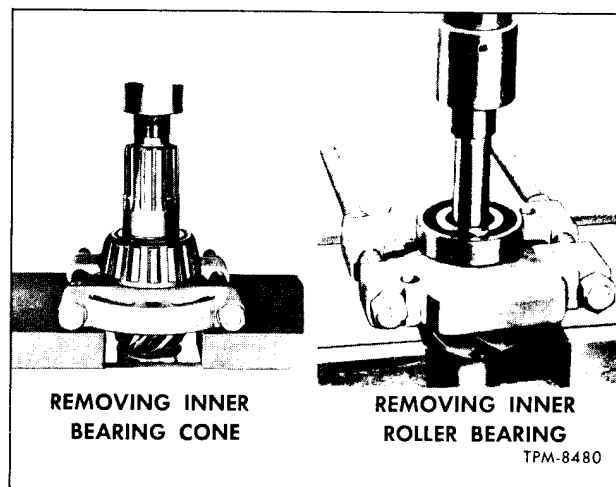
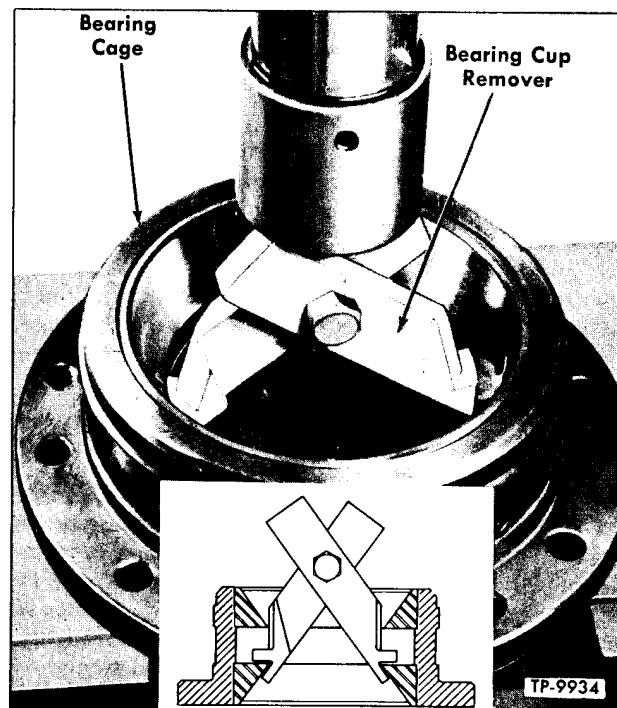

Figure 6—Pinion Bearing Removal
Figure 7—Pinion Cage Bearing Cap Removal
inner bearing (37) on drive pinion (36); then remove inner bearing from drive pinion using universal puller (J-8176) and arbor press in manner illustrated in figure 6.
5. Clamp pinion in vise equipped with soft jaw plates. Remove cotter pin, nut (25), and washer (26) from drive pinion (36).
6. Using suitable puller, remove propeller shaft companion flange (27) from drive pinion (36).
7. Remove cap screws and lock washers from pinion oil seal retainer (23), then remove retainer and gasket. Remove parking brake camshaft from brake spider.
8. Place cage and drive pinion assembly in an arbor press and press drive pinion (36) out of flange (27) and pinion cage. Outer bearing (30) will remain in pinion cage.
9. Remove bearing adjusting spacer (33) from drive pinion (36) and tag for reassembly reference.
10. If necessary, inner bearing cone (31) can be removed from pinion with universal puller (J-8176) and arbor press as illustrated in figure 6.
11. Remove oil seal (29) assembly from pinion cage.
12. When inspection indicates necessity, cups (32 and 34) can be removed from cage, using remover (J-3940) in manner illustrated in figure 7.